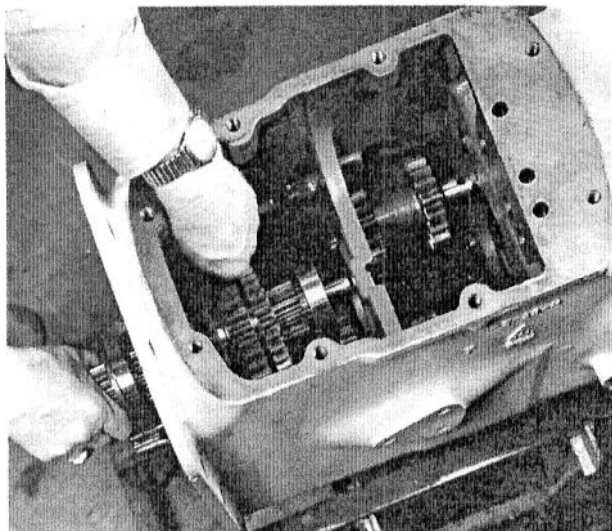

Fig. 4 - Removing Front Bearing From Main Shaft
- b. Use the shaft as a sliding hammer action to remove the front bearing from the shaft, as shown in Fig. 4.